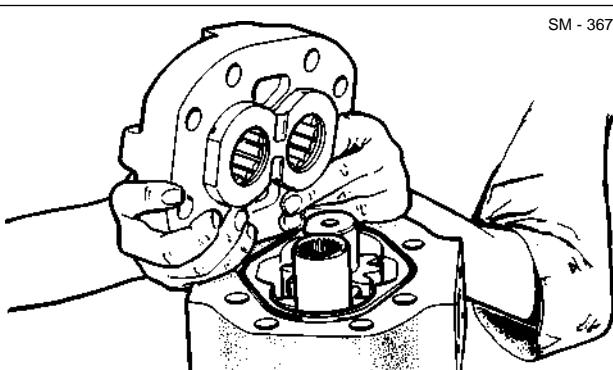

Fig. 32 - Installing End Cover
14. With match marks aligned, position end cover (23) over gear (20 & 21) journals. Tap end cover (23) lightly with a soft hammer to seat on gear housing (22). See Fig. 32. Be careful not to pinch seal (16).